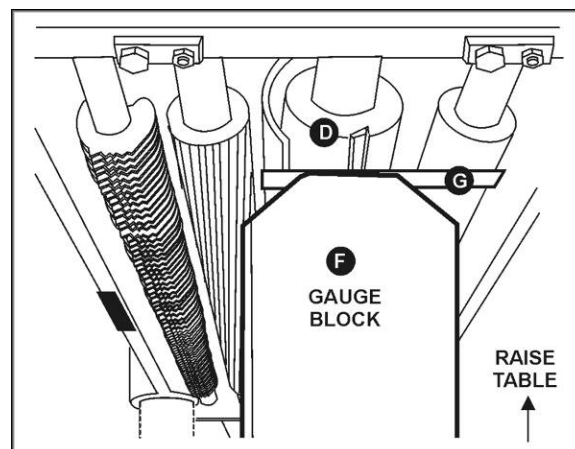
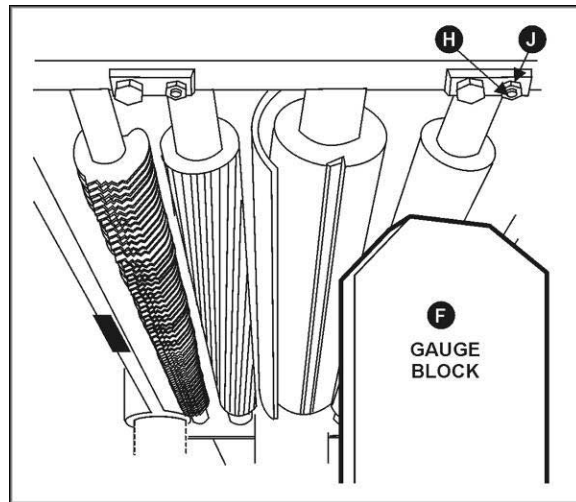

Figure 25
Figure 26
3. Place the gauge block (F, Figure 25) on the table directly beneath the cutterhead (D, Figure 25).
4. Using a 0.02" (0.5mm) feeler gauge (G, Figure 25) placed on top of the gauge block, raise the work table until the knife just touches the feeler gauge when the knife is at its lowest point. Do not move the work table any farther until the outfeed roller is adjusted.
5. Remove the feeler gauge and move the gauge block (F, Figure 25) under one end of the outfeed roller. The bottom of the outfeed roller should just touch the top of the gauge block. If an adjustment to the outfeed roller is necessary, loosen the lock nut (J, Figure 26) and turn screw (H, Figure 26) until the outfeed roller just touches the gauge block. Then tighten lock nut (J, Figure 26).